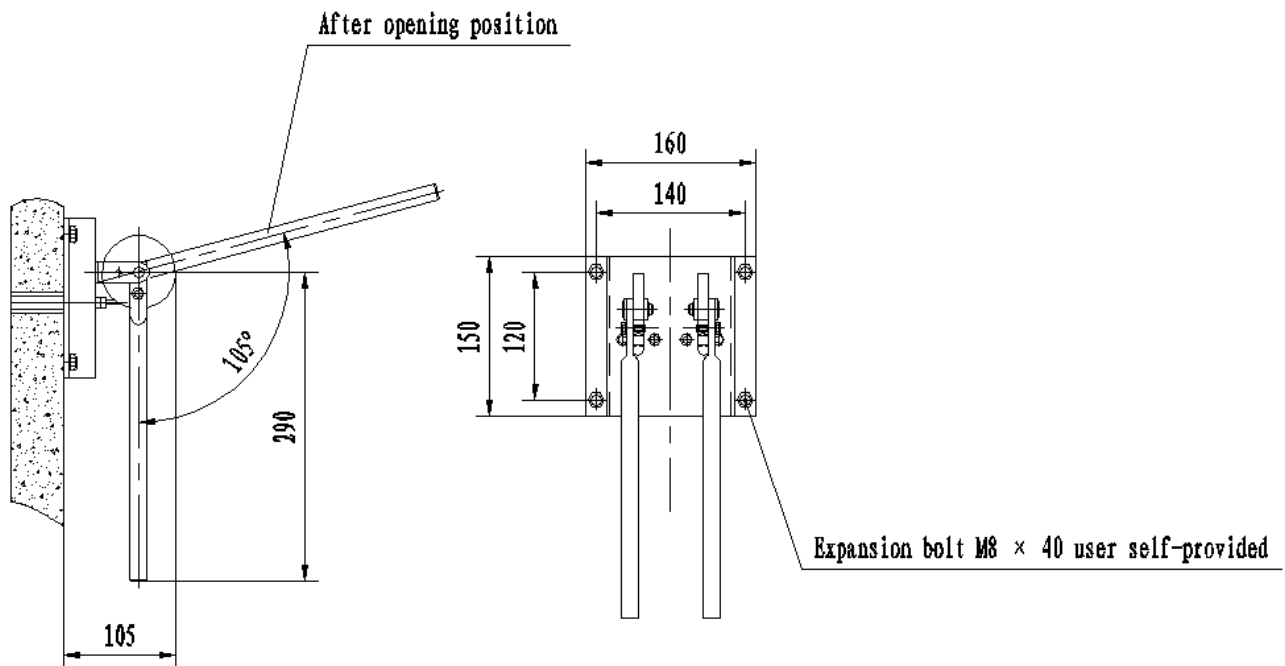

Fig.1.10
- 1)The two loose hose lines 4 are respectively passed through the traverse holes of the mounting plate 3 and are respectively mounted on wheel 2 which has been fixed to the mounting plate. The relative position of wheel 2 and handle 1 when installed as shown in fig. 1.10 ensures that wheel 2 is inside the handle 1, Only in this way can the rope slot on wheel 2 correspond to the crossing hole of mounting plate 3. After installing the loose gate hose line 4, lock wheel 2 and handle 1 with the bolt of M6*20;